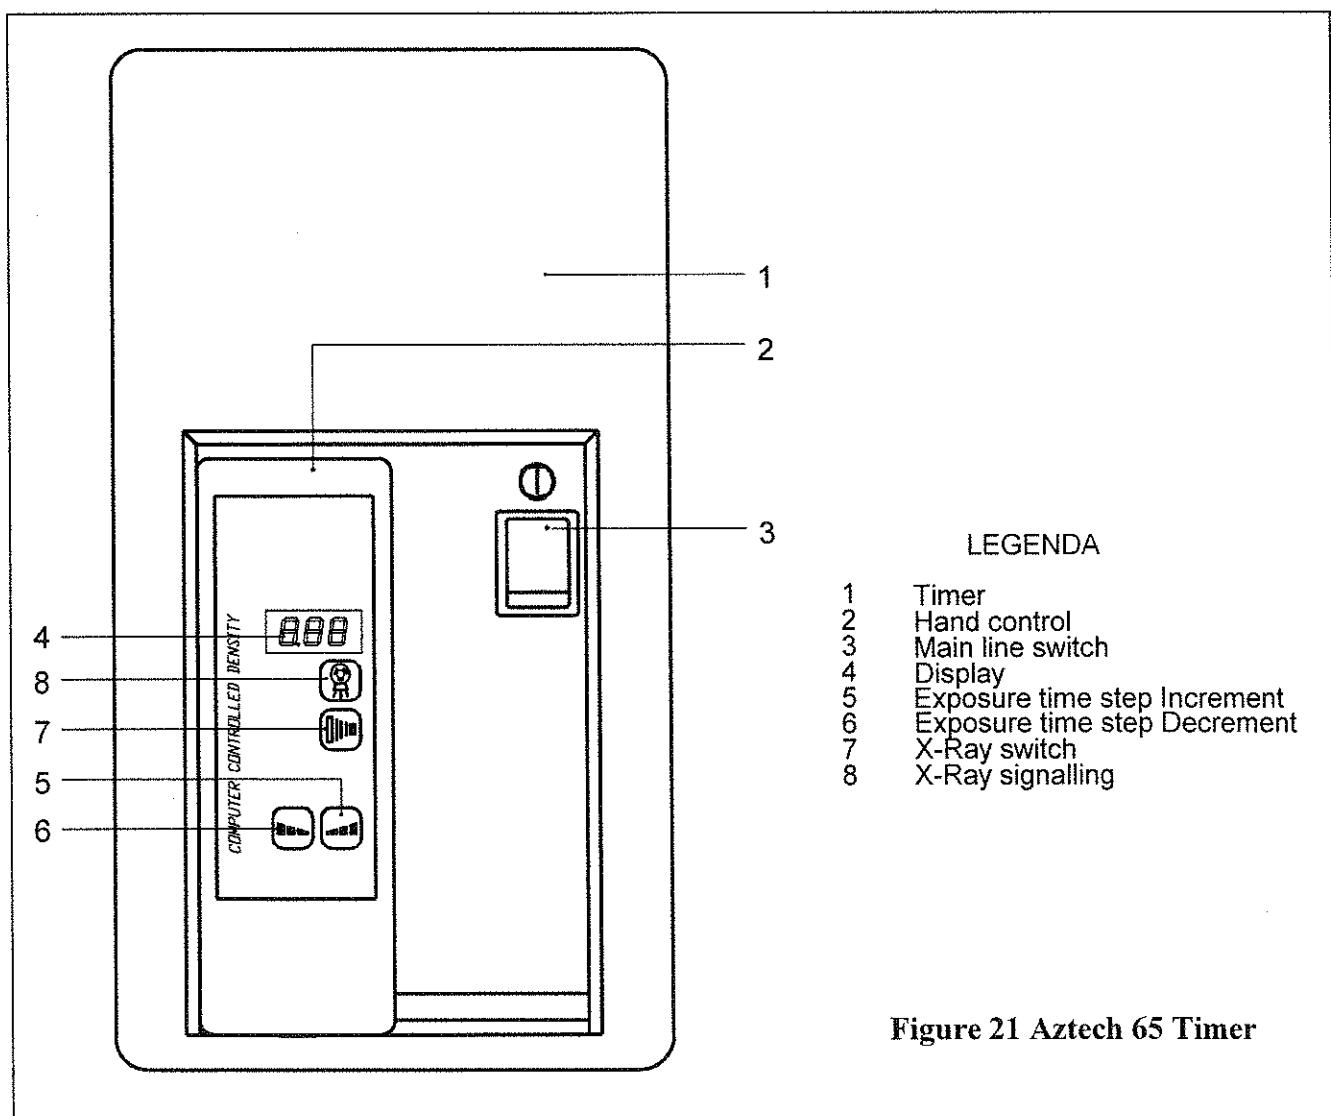

Figure 21 Aztech 65 Timer
- a) Depress ON/OFF Switch "3" (Figure 21 on page 39) and check glowing of pilot lamp on Switch and simultaneous switching of Remote Hand Control